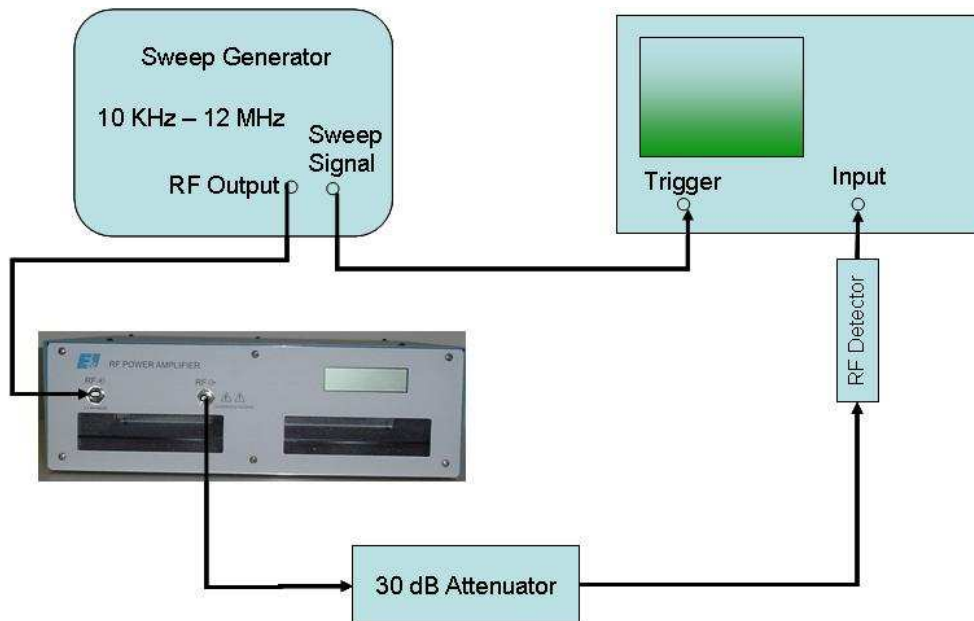

Figure 4-1. Gain Measurement
2. Connect the equipment as shown in Figure 4-1, then proceed as follows:
- g) Reconnect the 240L into the test set-up of Figure 4-1.